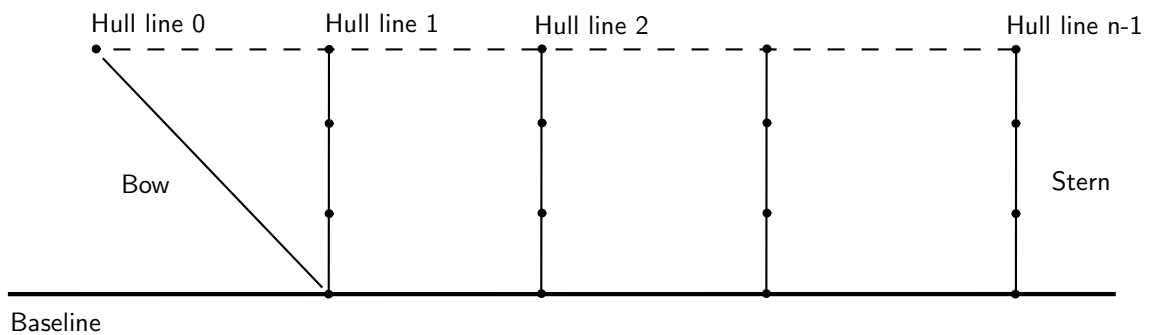

Figure 50: The profile of a hull's port side surface patch's hull lines.
- ☞ Successive hull lines for the port side hull must therefore because defined from the bow to the stern as shown in Figure 50.